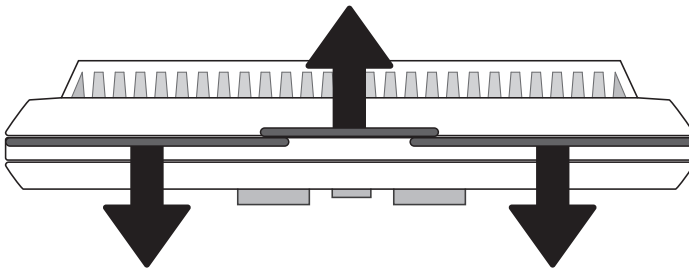

Figure 23.1
1. Separate the body of the thermostat from the mounting plate by gently pulling the two pieces apart (Figure 23.1).